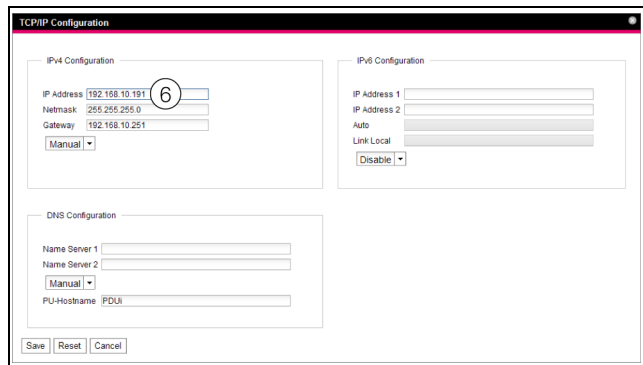

Fig. 22: Customise the TCP/IP settings
- In the **TCP/IP Configuration** window, change the device's IP address in the **IPv4 Configuration** group box to an address permitted in the network (fig. 22, item 6).